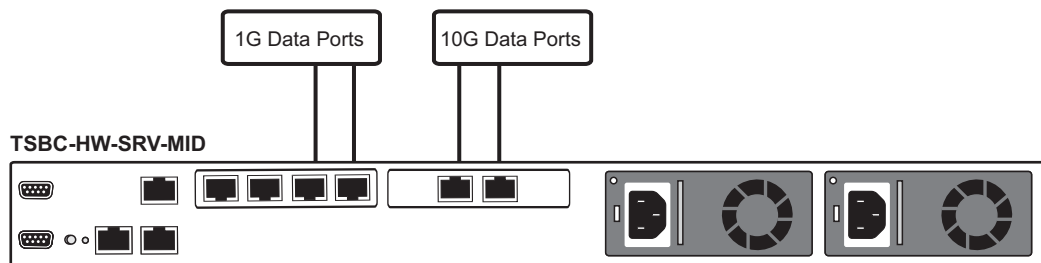

Figure 3.6 TSBC-HW-SRV-MID: Connecting to the Data Network
- To connect the TSBC-HW-SRV-MID to the data network, refer to figure 3.6 on page 21.